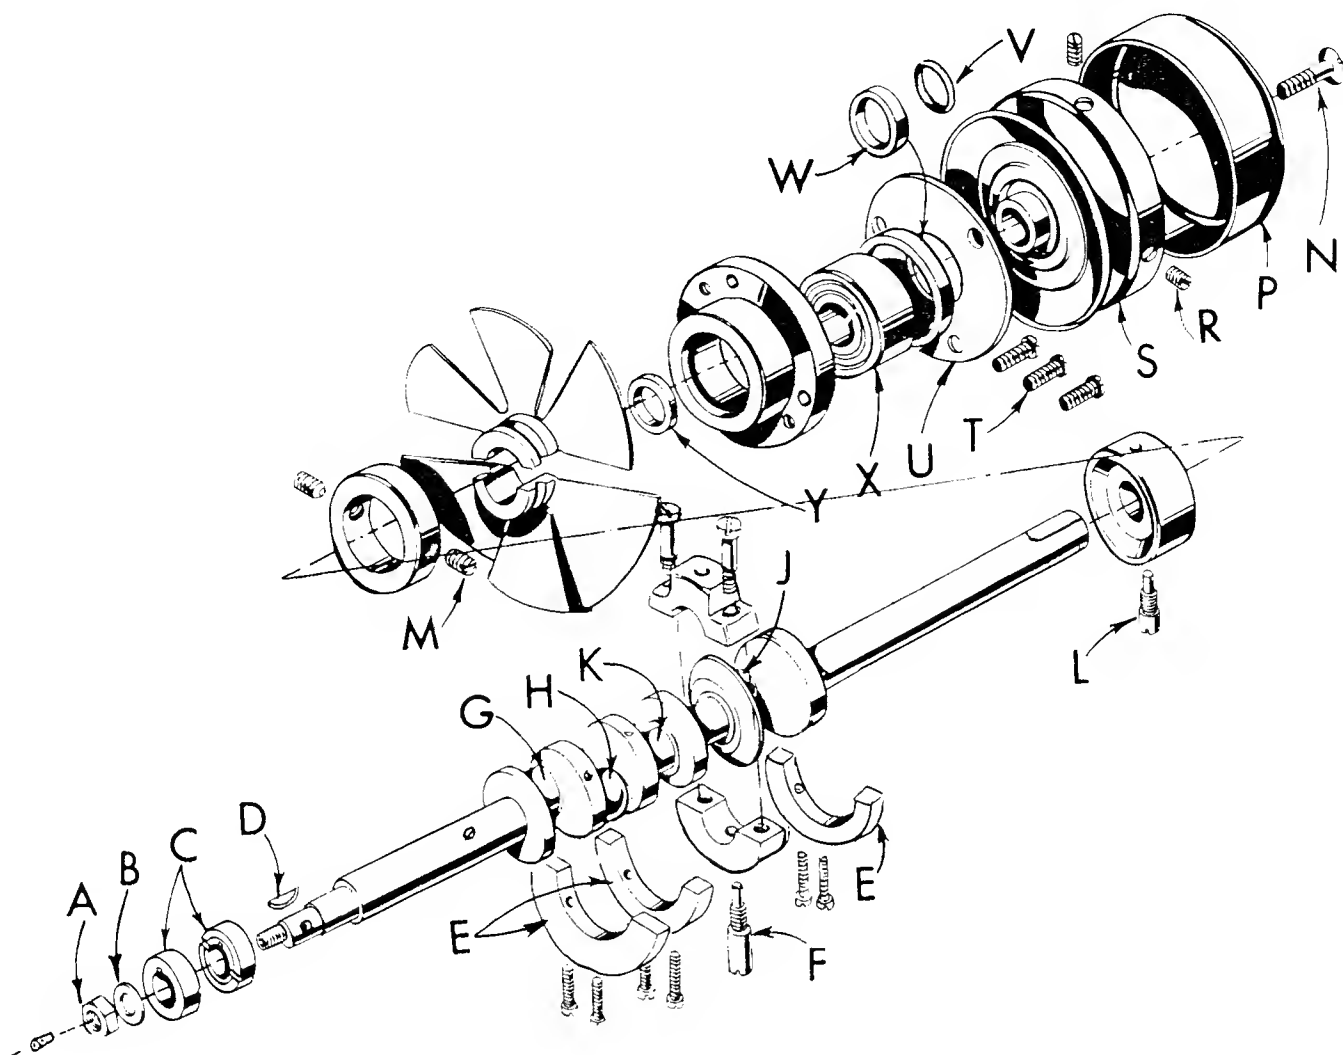
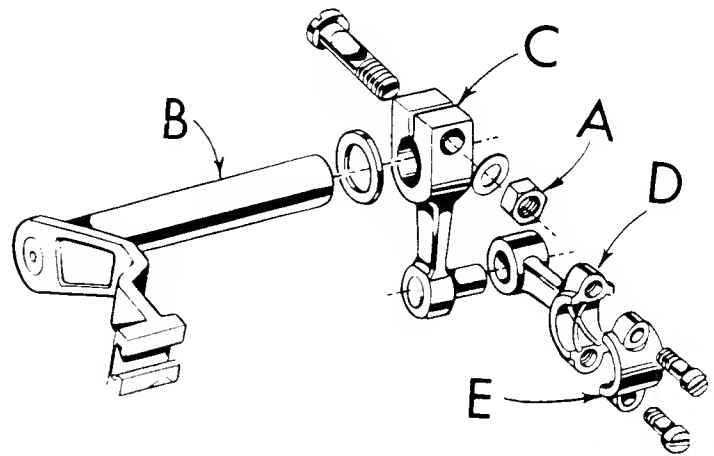

Fig. 17
Fig. 18
3. Remove feed eccentric nut (A, Fig. 17) and washer (B), and, with the aid of the eccentric extractor, slip off the eccentrics (C).
4. Remove key (D).
5. Remove three counterweights (E). Identify these counterweights so that they will be re-assembled in the proper places.
6. Remove screw (F) which holds crankshaft split bearing. This screw is reached through bottom of bed casting.
8. Loosen clamp nut (A, Fig. 18) which holds upper knife driving arm (B). Access to clamp nut is through top cover. Draw driving arm to the left until upper knife driving lever (C) and connecting rod (D) drop, allowing removal of bearing cap (E). This is at bearing point (K, Fig. 17) on crankshaft. Observe same precautions when re-assembling cap as described in 7 above.
9. Remove screw (L, Fig. 17) which holds inner right crankshaft bearing. This screw is reached through bottom of bed casting.
10. Loosen two screws (M) in fan collar; remove both halves of cooling fan.
11. Remove screw (N); take off pulley cap (P).
12. Loosen two screws (R); remove pulley (S).
13. Remove three screws (T); take off bearing retaining plate (U); also, spacer collars (V) and (W) may be removed at this time.
15. If necessary to replace ball bearing (X), it should be pressed off shaft on an arbor press. In replacing bearing it must be pressed on carefully until it seats against ground thrust washer (Y).